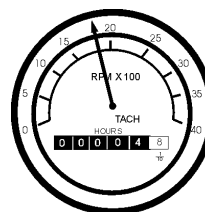

Figure 52. Engine Tachometer
16. The tachometer (Figure 52) will indicate the speed of the engine when the generator is operating. Under normal operating conditions this speed is approximately 1800 RPM's.